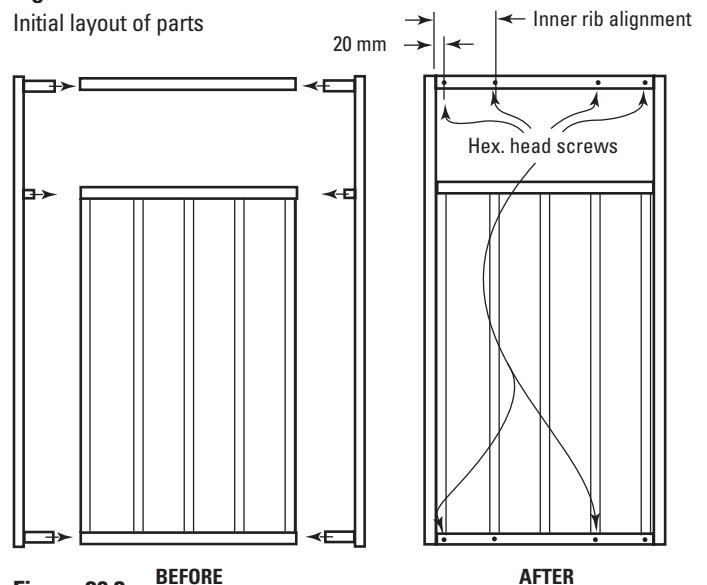

Figure 20.3
If a lattice is used, ensure that the lower top rail fits neatly onto the lattice gate clips. (Figure 20.3)
8. Hold both stiles firmly in place and drive one hex. head screw (#10-16x16) in each of the four corners, 20mm from the inside edge of the stile (Figure 20.3).
9. Check squareness by measuring the gate's diagonals. Drive a second hex. head screw (see below) in each of the four corners, at first inner rib (non side-lap rib) of infill sheet from the stile for NEETASCREEN and SMARTASCREEN and second inner rib for CUSTOMSCREEN (Figure 20.3).